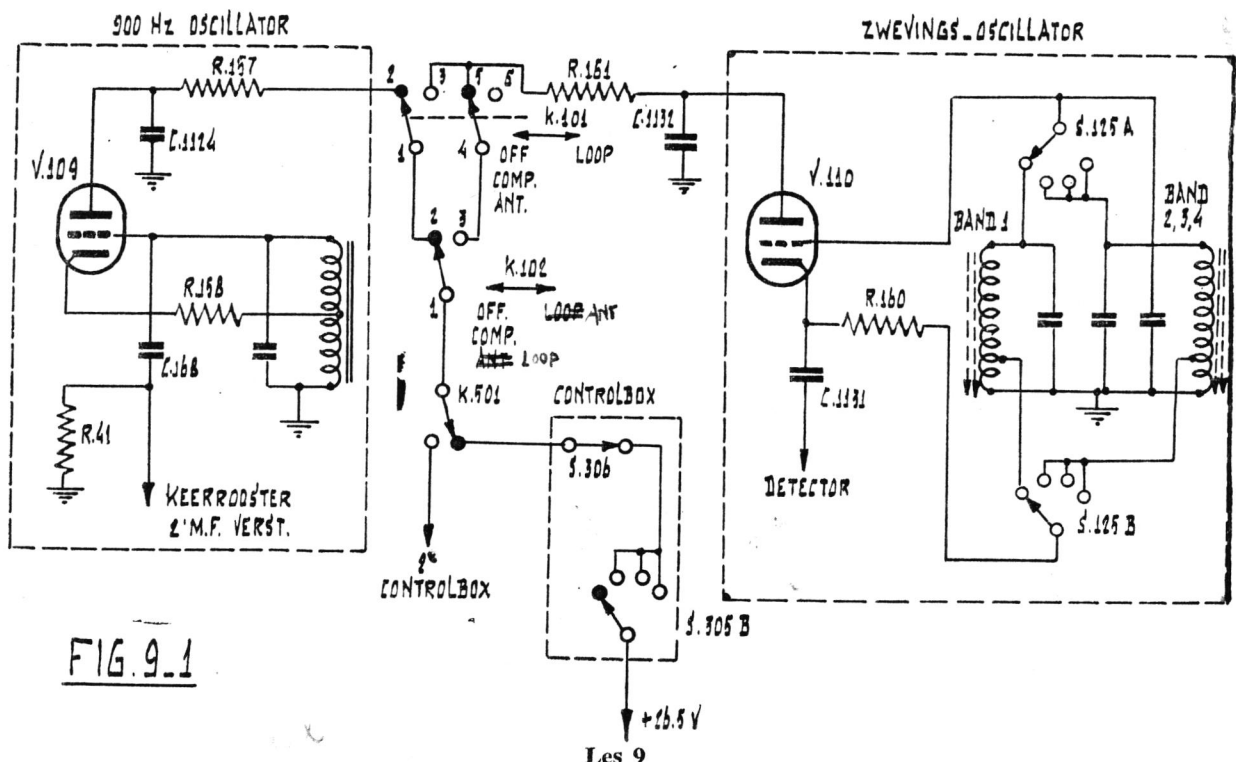

FIG. 9-1
1. 900 Hz oscillator en zwevingsoscillator (fig. 9-1)